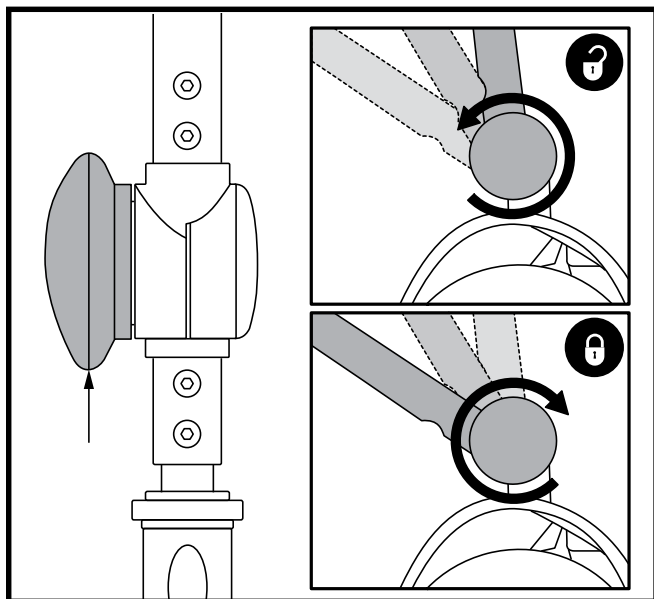

Figure 24. Tiller Adjustment Knob
TILLER ANGLE ADJUSTMENT (See figure 24)
1. With the seat and battery pack removed (see Disassembly Procedures on previous page), lower the tiller and tighten the tiller adjustment knob. **See figure 24.**